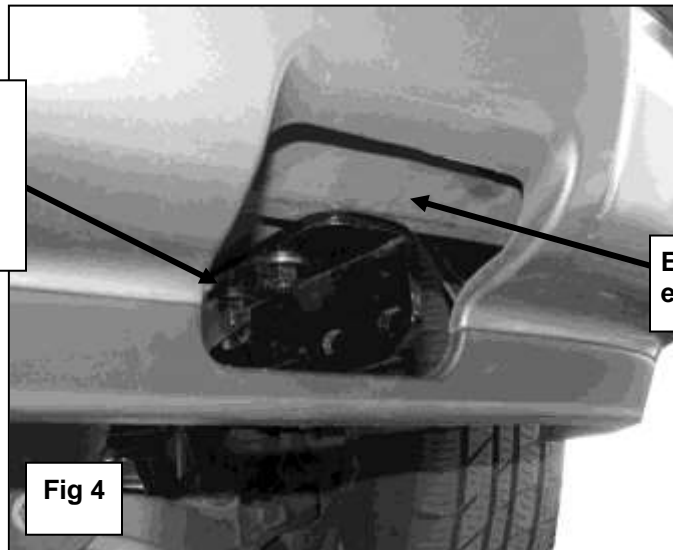

Fig 4
BEACON BULL BAR FOR FORD F150 2004-2020(Excl. Heritage edition and 10-14 F150 Raptor models)/EXPEDITION 2003-2017 the driver side Mounting Bracket in position with the slotted end toward the rear. Secure the Mounting Bracket to the U-Bolt with (2) 10mm x 27mm OD x 3 mm Flat Washers, (2) 10mm Lock Washers and (2) 10mm Hex Nuts, **(Figure 4)**. Snug but do not tighten the hardware.